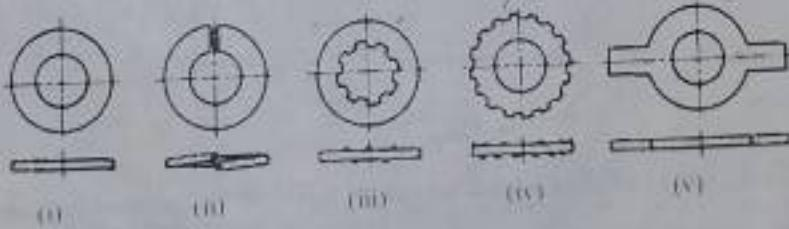

Fig. 6
- (c) Give the correct name for each of the washers shown in figure 6.